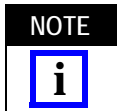

Figure 1
2. DESCRIPTION (Figure 1)
3. INSERTION PROCEDURES (Figure 1)